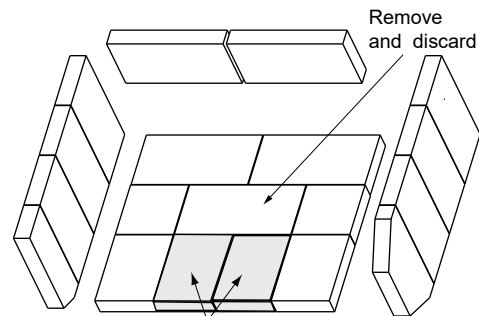

Figure 21.1
2. Remove the 2 bricks in the front most part of the firebox (**Figure 21.1**).
2. Remove the 2 bricks in the front most part of the firebox (Figure 21.1 on page 21).